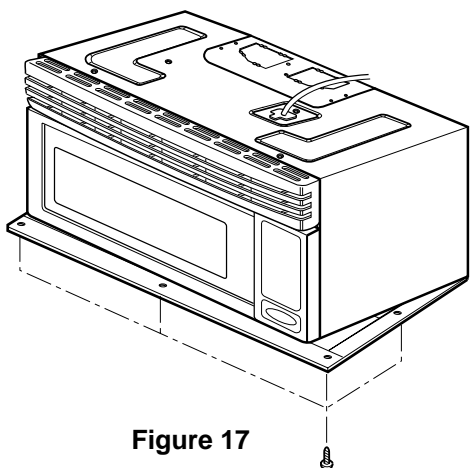
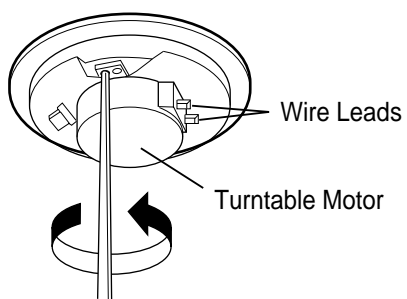

Figure 17
Figure 18
- (1) Remove the turntable.
- (2) Remove the rotating ring on the bottom plate of oven cavity.
- (3) Remove the base plate by removing 5 screws securing it to the oven cavity. (Figure 17)
- (4) Disconnect the leadwire from the turntable motor terminals.
- (5) Remove the 2 screws securing the turntable motor to the oven cavity ASS'Y. (Figure 18)